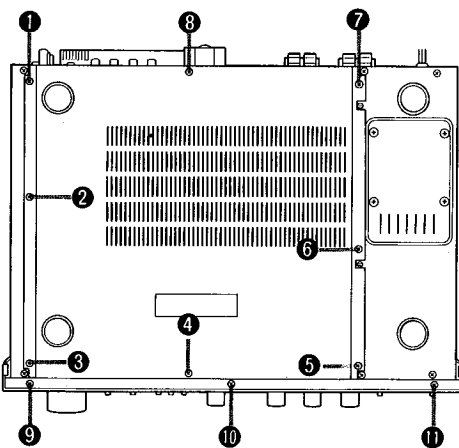
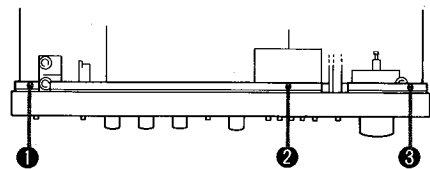

Fig. 2
Fig. 3
Remove the screws 1 to 8 in Fig. 2 and then remove the cabinet bottom.
3. Remove the screws 9 to 11 in Fig. 2 and 1 to 3 in Fig. 3 and then remove the front panel assembly.